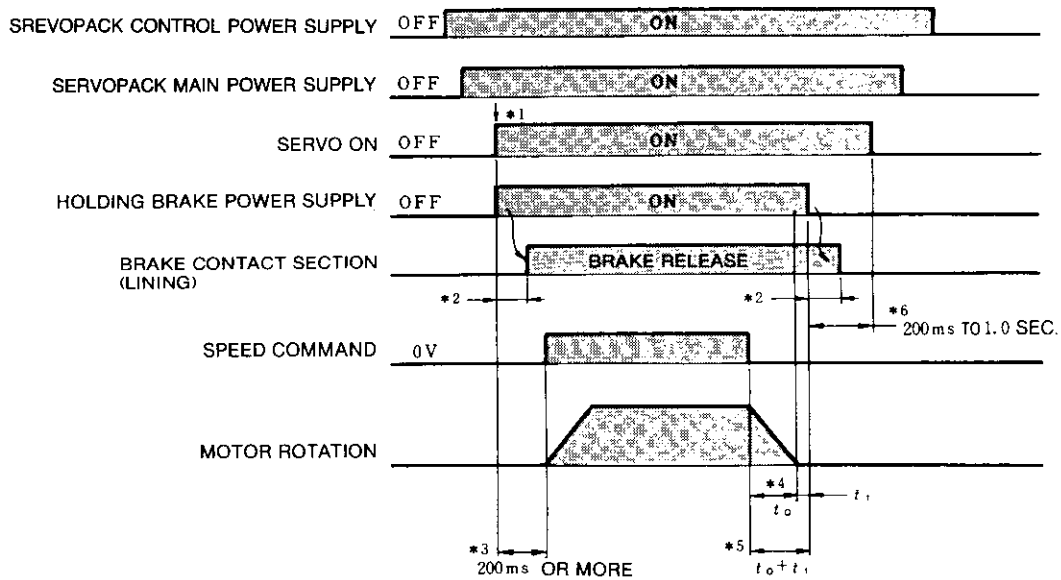

Fig. 6.40 Brake Timing
- (2) Since operation lag time is provided for the brake, perform operation ON/OFF timing as shown in Fig. 6.40.